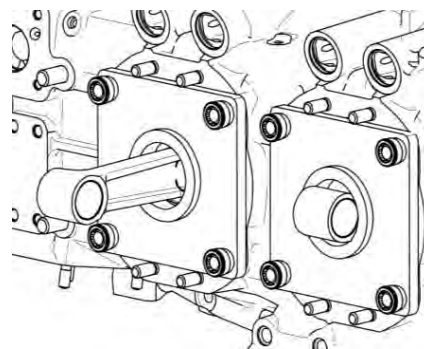

Figure 84
- (11) Install the Torque Hold-Down Plate (ST-222, Figure 84) on the cylinder pads over the thru-studs.
- (12) Attach the plates with washers and nuts on the thru-studs. Tighten the nuts only finger tight at this time.
- (13) Make sure that the plates remain parallel with the cylinder decks of the crankcase.